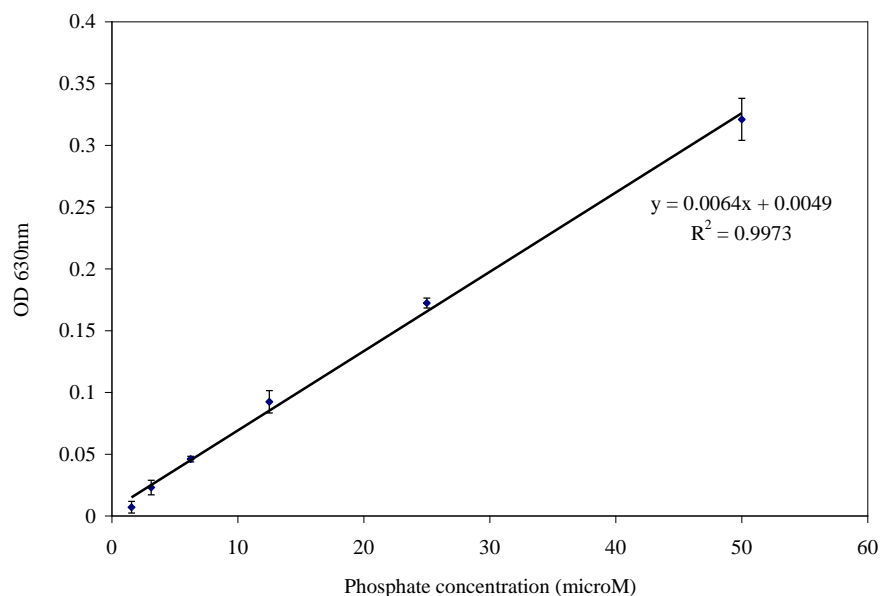

Figure 1. A typical phosphate standard curve measured by ScienCell™ Malachite Green Phosphate Assay.
Data from ScienCellTM Malachite Green Phosphate Assay of phosphate solutions with concentrations ranging from 1.5625 to 37.5  $\mu\text{M}$  shows a linear relationship between  $\text{OD}_{630\text{nm}}$  and phosphate concentration (Figure 1).
2. Based on the calibrated OD630nm of the phosphate standard, make a standard curve by plotting OD630nm as a function of phosphate concentration. (See Figure 1 for a typical standard curve.) Determine the equation and R2 value of the trend line.